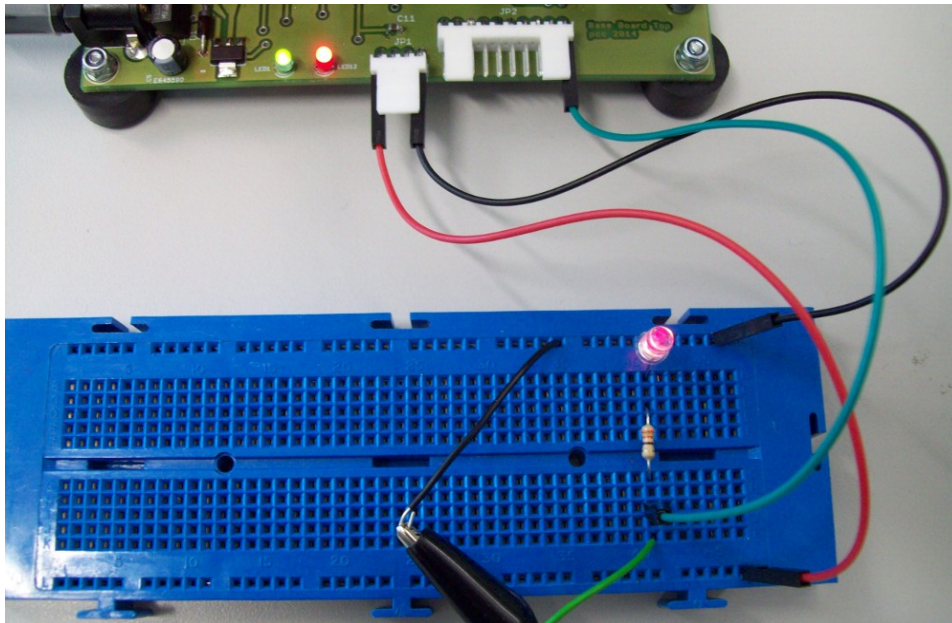

Figure 15: LED display wiring
**Note**, if possible its good practice to colour code your connecting wires. In the example shown in figure 15, **GREEN** is a signal (GPIO10), **RED** is VCC (+5V, not used in this example) and **BLACK** is 0V. To execute this program on the Pi, within the command terminal running SSH, type: